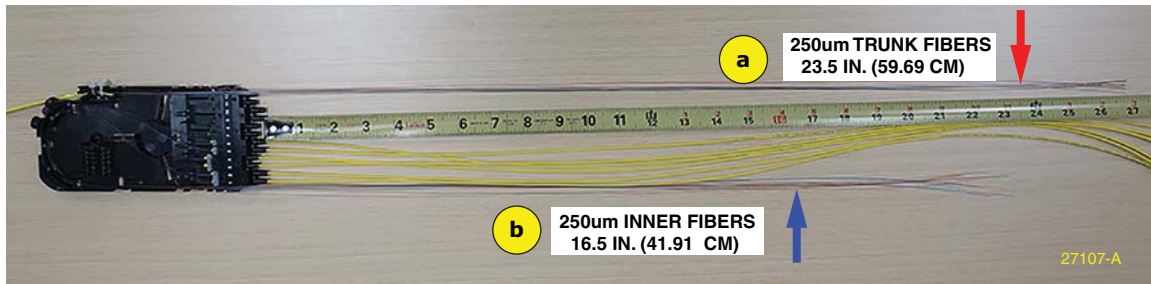

Figure 16. Trimming Feeder Fibers
16. Extend feeder fibers and inner fibers in front of cassette as shown in Figure 16. Use tape to hold down the fibers. (a) Trim trunk fibers to 23.5 in.(59.69 cm). (b) Trim inner fibers to 16.5 in.(41.91 cm).